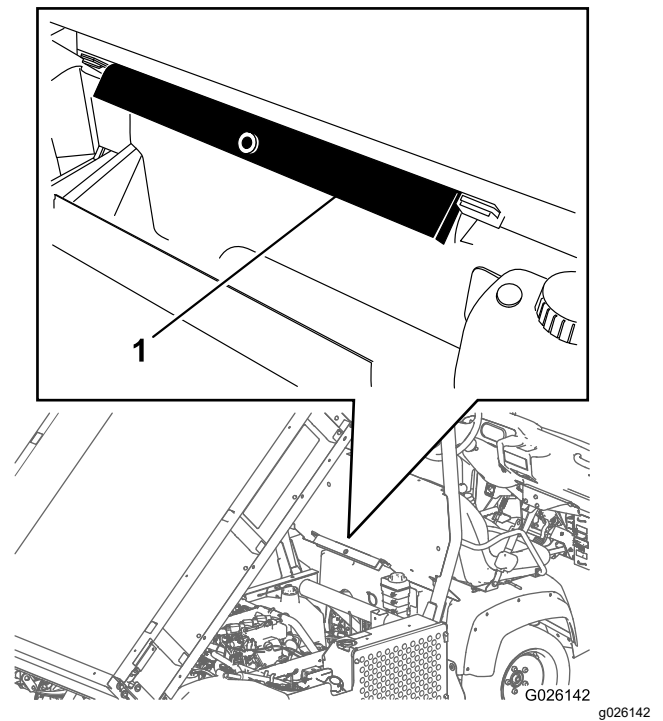

Figure 32
2. Remove the bed support from the storage brackets on the back of the ROPS panel (Figure 32).